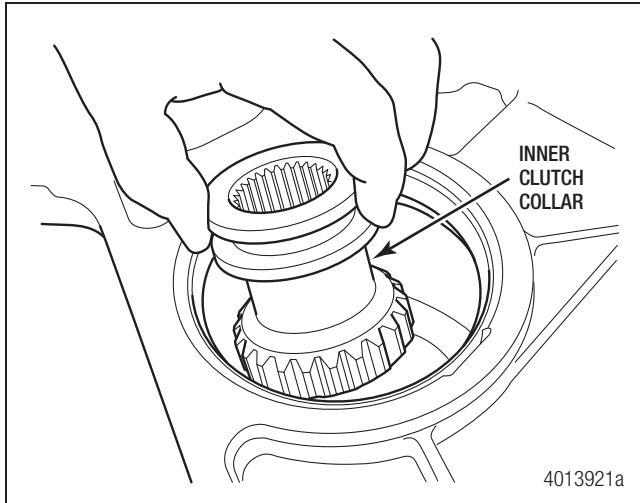

Figure 4.24
27. Remove the inner clutch collar from the housing. Figure 4.24.